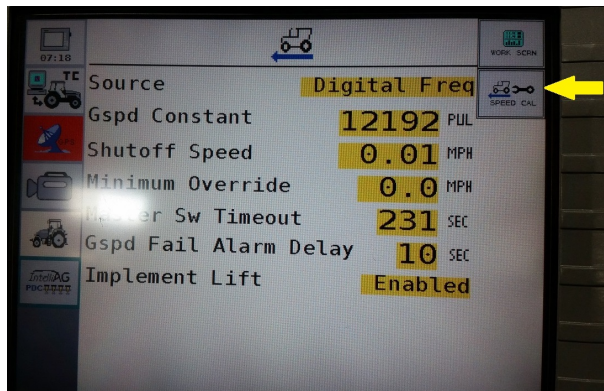

Figure 53
Step 4. Push **Speed Cal**. (Figure 53)